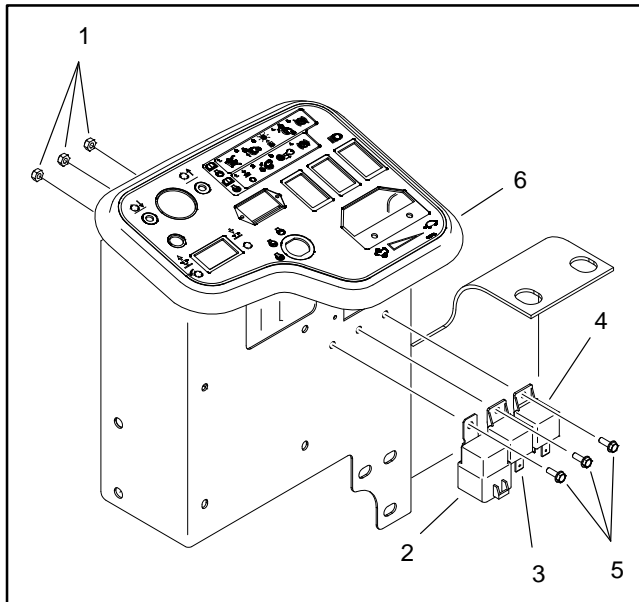
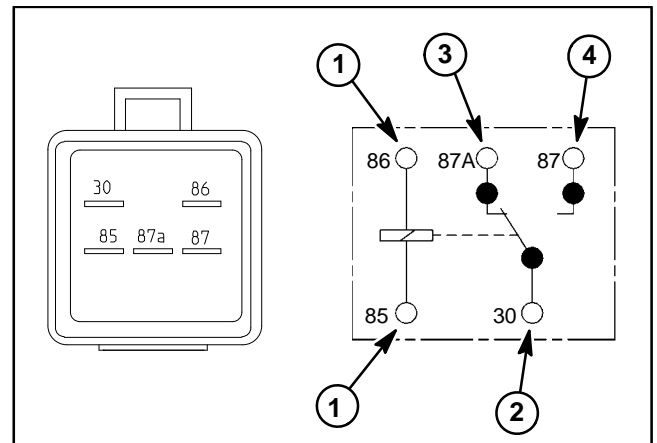

Figure 45
Figure 46
The start relay is secured to the control panel assembly next to the operator seat (Fig. 45). This relay is attached to the wire harness with a five (5) wire connector (Fig. 46). The relay can be accessed by removing the control panel cover.